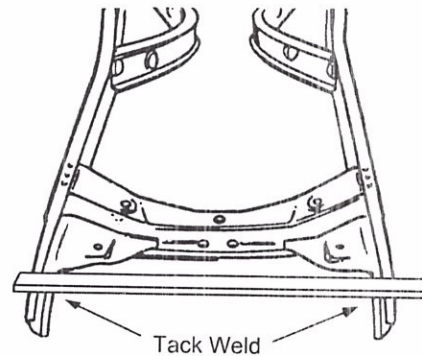

Figure 1
2. Remove all the old front suspension components. We would recommend that at this point, you tack weld or clamp a temporary brace across the frame rails in front of the old crossmember as shown in Figure 1. This helps to maintain the rail dimension after the old crossmember is removed. Lastly, remove the old crossmember by drilling out the rivets.